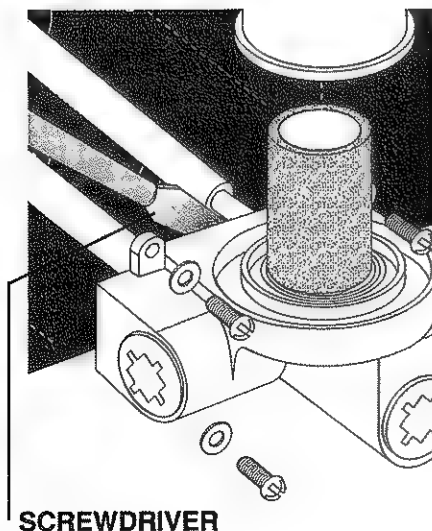

FIGURE 24:
7. Using a large blade screwdriver, carefully pry the hoses off of the tri filter as shown in FIGURE 24.